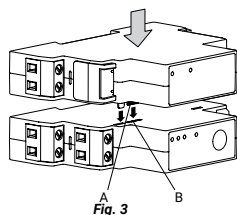

Fig. 3
Attach the Shelly Pro 3EM Switch Add-on to the Shelly Pro 3EM device as shown in Fig. 3
⚠ CAUTION! Be very careful not to bend the Device header pins fig. 3(A) when inserting them into the Shelly Pro 3EM device header connector fig. 3(B).